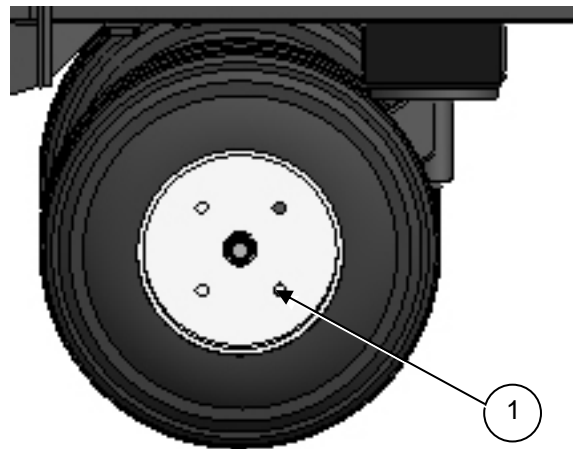

FIG. 13
Check wheel lug nut 1, FIG. 13 tightness after the first two (2) hours of operation, again after the first ten (10) hours, then periodically.